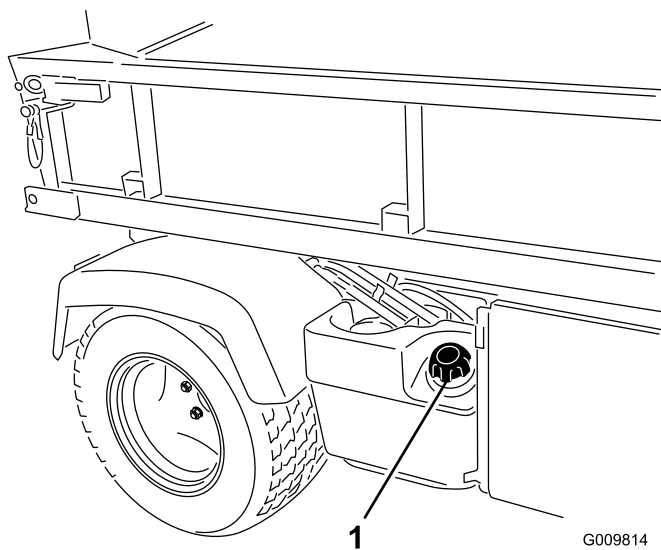

Figure 12
2. Remove the fuel tank cap (Figure 12).